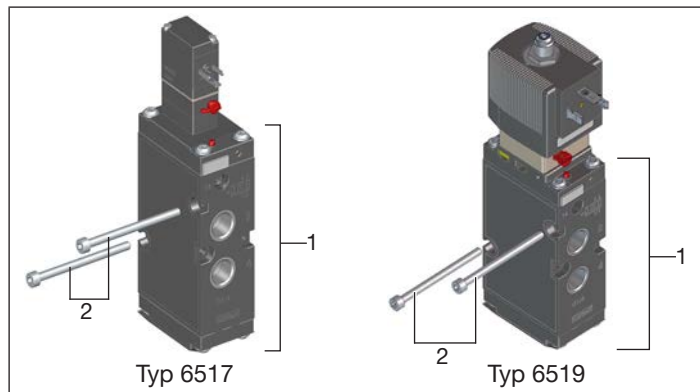

Fig. 8: Fastening single valves
- Fasten individual valves directly to the wall with M4 screws (see “Fig. 8”).